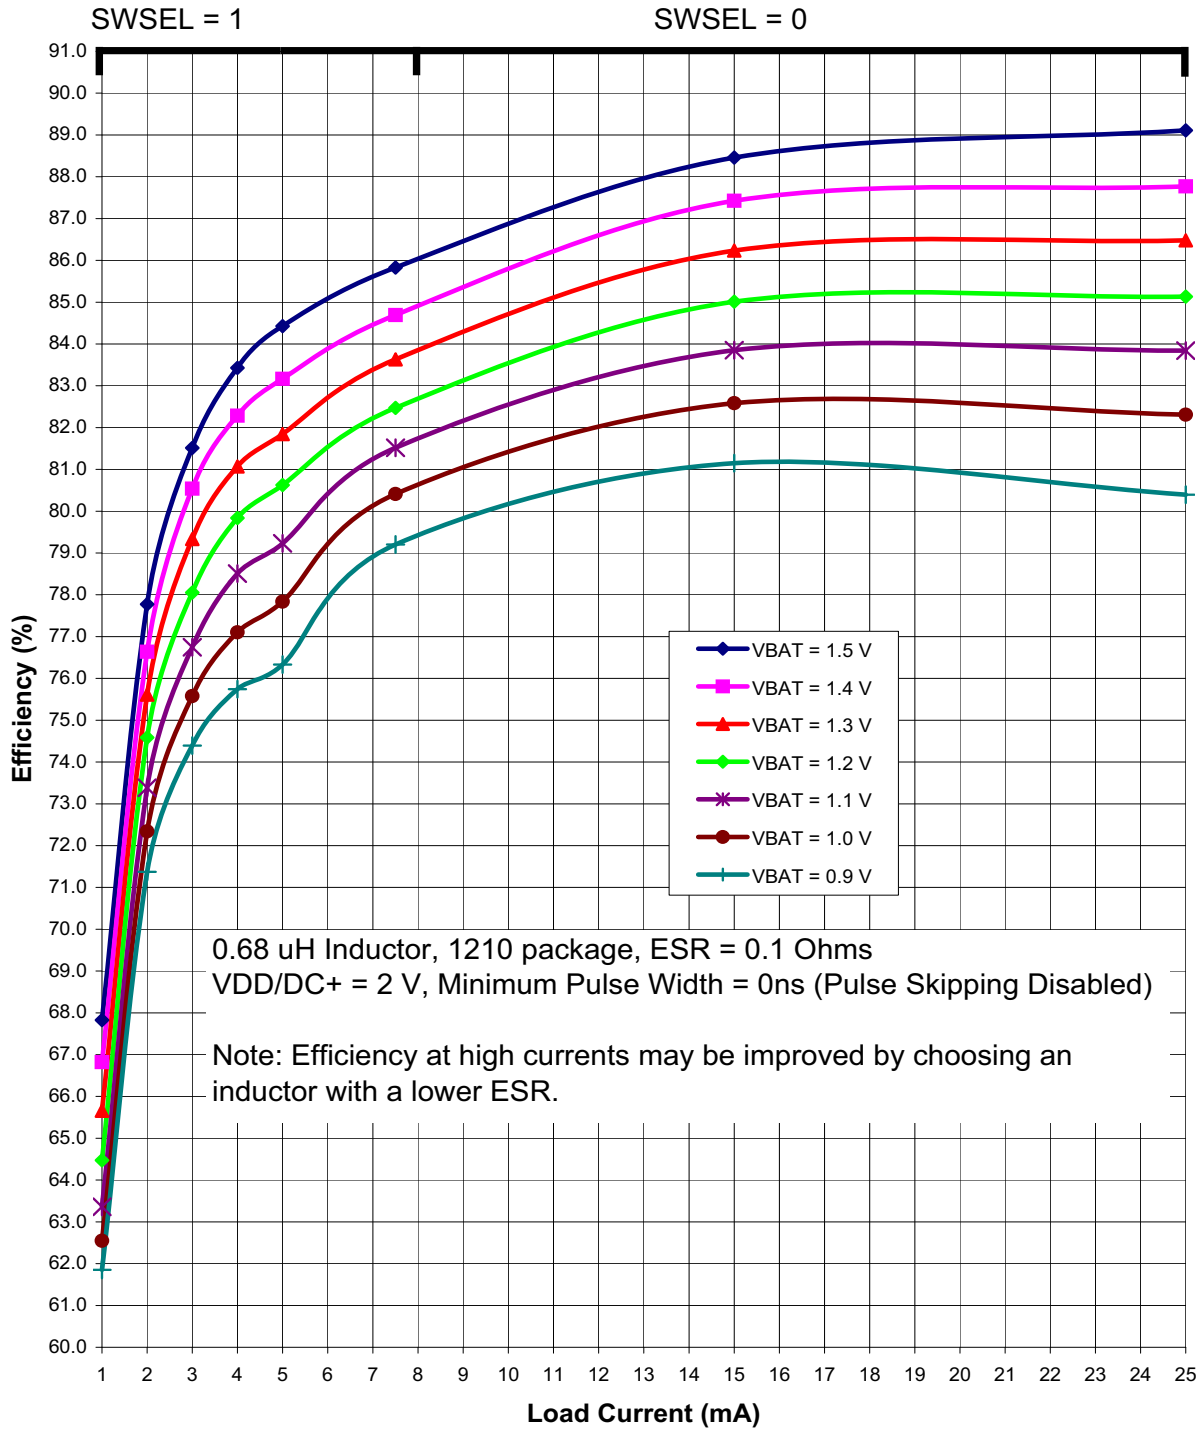
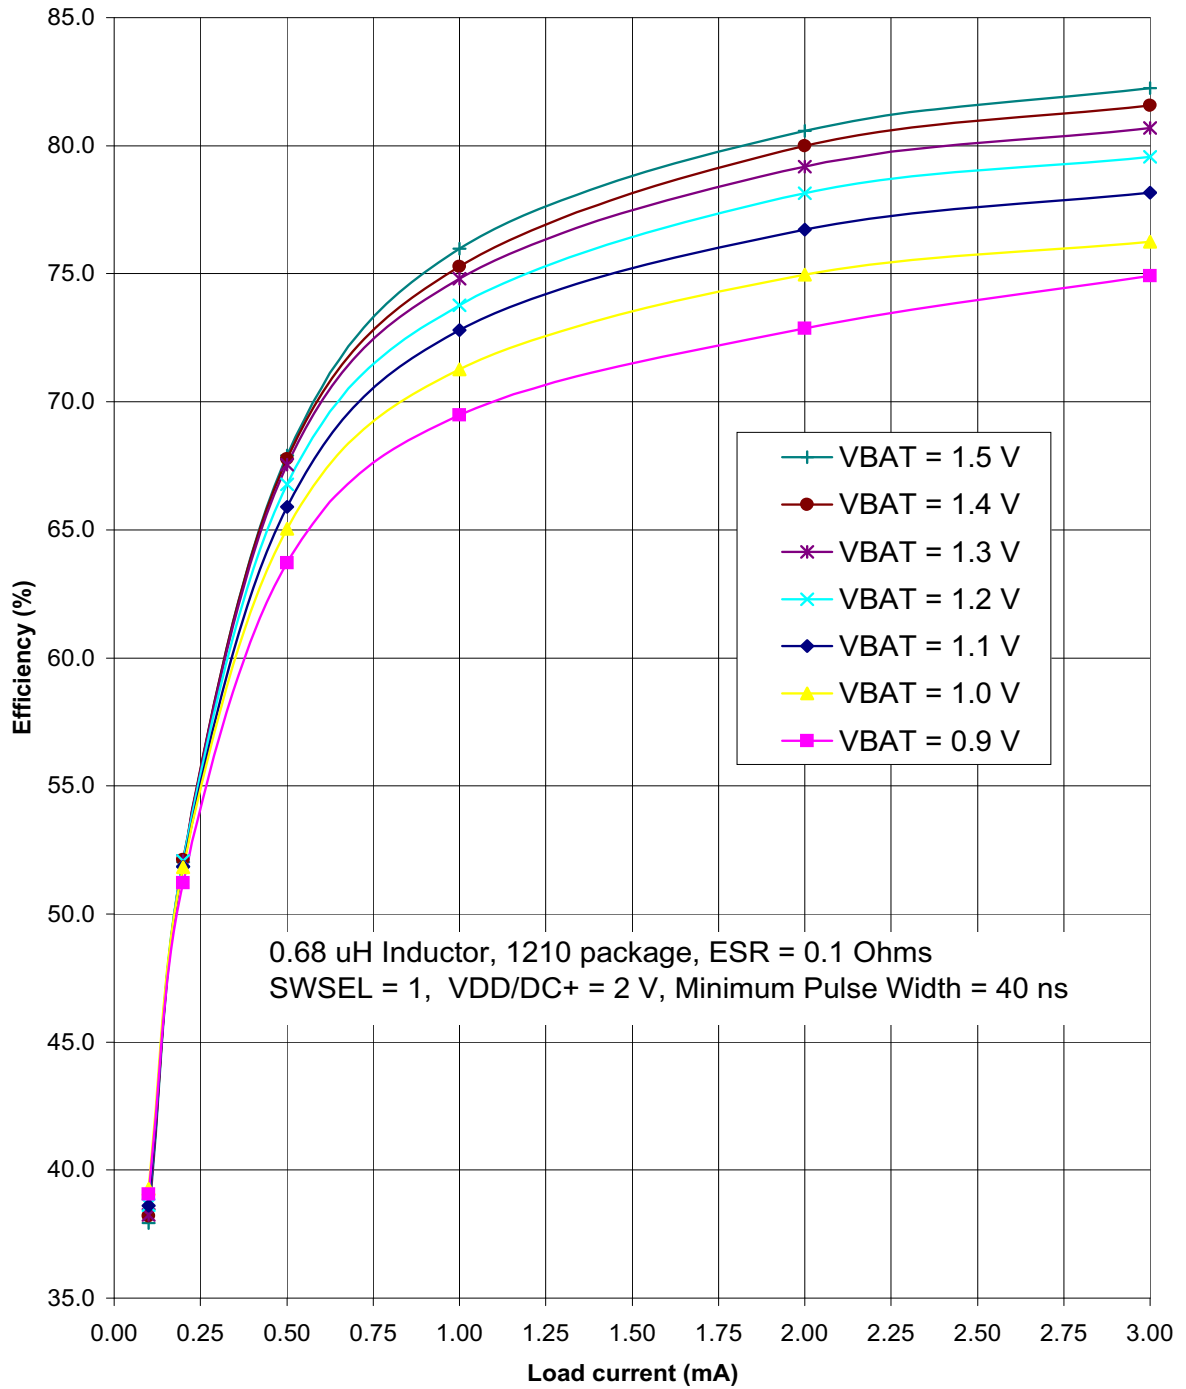

Figure 4.3. Typical DC-DC Converter Efficiency (High Current, VDD/DC+ = 2 V)
Figure 4.5. Typical DC-DC Converter Efficiency (Low Current, VDD/DC+ = 2 V)
<ol style="list-style-type: none"> Based on device characterization data; Not production tested. SYSCLK must be at least 32 kHz to enable debugging. Digital Supply Current depends upon the particular code being executed. The values in this table are obtained with the CPU executing an "sjmp \$" loop, which is the compiled form of a while(1) loop in C. One iteration requires 3 CPU clock cycles, and the Flash memory is read on each cycle. The supply current will vary slightly based on the physical location of the sjmp instruction and the number of Flash address lines that toggle as a result. In the worst case, current can increase by up to 30% if the sjmp loop straddles a 64-byte Flash address boundary (e.g., 0x007F to 0x0080). Real-world code with larger loops and longer linear sequences will have few transitions across the 64-byte address boundaries. Includes oscillator and regulator supply current. IDD can be estimated for frequencies ≤ 14 MHz by simply multiplying the frequency of interest by the frequency sensitivity number for that range, then adding an offset of 90 μA. When using these numbers to estimate I_{DD} for > 14 MHz, the estimate should be the current at 25 MHz minus the difference in current indicated by the frequency sensitivity number. For example: $V_{DD} = 3.0$ V; $F = 20$ MHz, $I_{DD} = 4$ mA – $(25 \text{ MHz} - 20 \text{ MHz}) \times 0.102 \text{ mA/MHz} = 3.5$ mA assuming the same oscillator setting. The supply current specifications in Table 4.2 are for two cell mode. The VBAT current in one-cell mode can be estimated using the following equation: $\text{VBAT Current (one-cell mode)} = \frac{\text{Supply Voltage} \times \text{Supply Current (two-cell mode)}}{\text{DC-DC Converter Efficiency} \times \text{VBAT Voltage}}$ <p>The VBAT Voltage is the voltage at the VBAT pin, typically 0.9 to 1.8 V. The Supply Current (two-cell mode) is the data sheet specification for supply current. The Supply Voltage is the voltage at the VDD/DC+ pin, typically 1.8 to 3.3 V (default = 1.9 V). The DC-DC Converter Efficiency can be estimated using Figure 4.3–Figure 4.5.</p> Idle I_{DD} can be estimated by taking the current at 25 MHz minus the difference in current indicated by the frequency sensitivity number. For example: $V_{DD} = 3.0$ V; $F = 5$ MHz, Idle $I_{DD} = 2.1$ mA – $(25 \text{ MHz} - 5 \text{ MHz}) \times 0.079 \text{ mA/MHz} = 0.52$ mA.